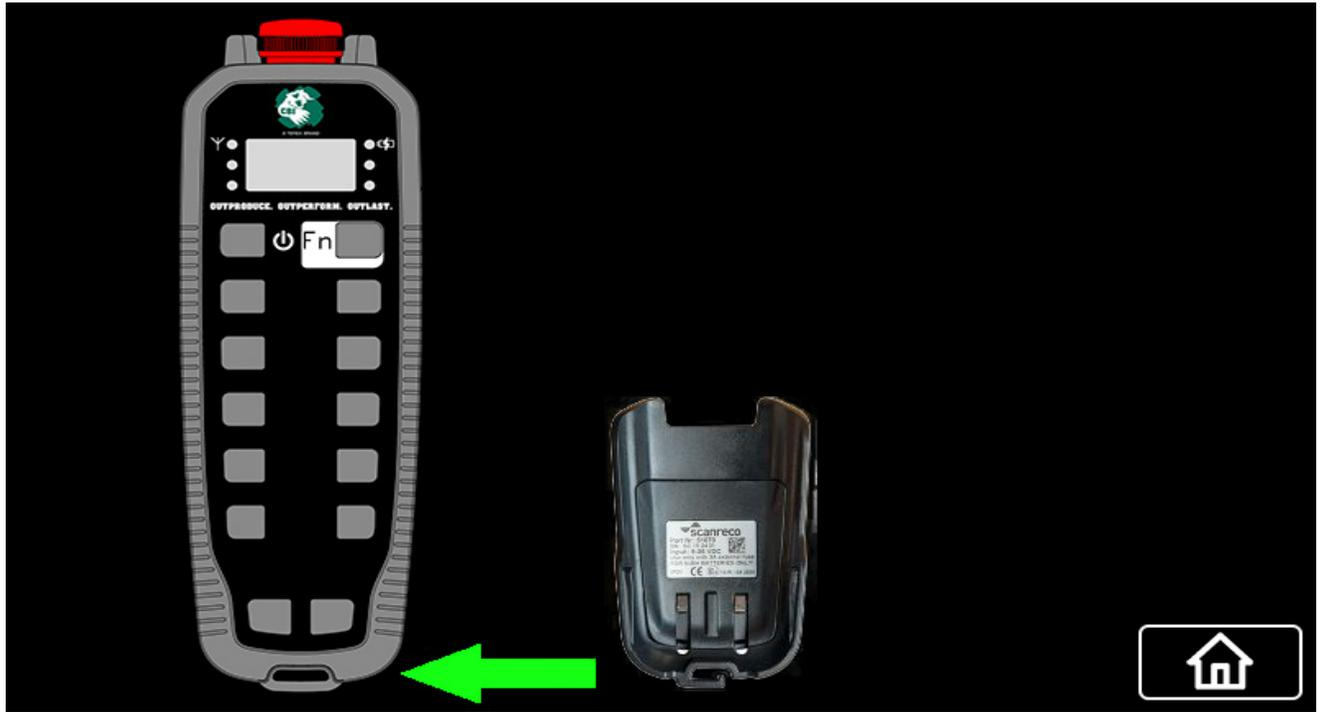

Figure 5.11 - Plug in Remote Control
13. When the remote is powered down, plug it into the provided charging cable in the control panel enclosure (Figure 5.11). Store the remote in the enclosure when not in use.